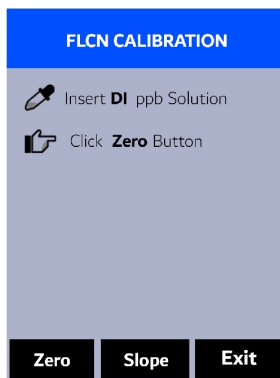

Figure 7.
1. Rinse the sample cell three times with deionized (DI) water. Fill the sample cell with the DI water.
4. Press **>** to launch the **FLCN CALIBRATION** screen (Figure 7).